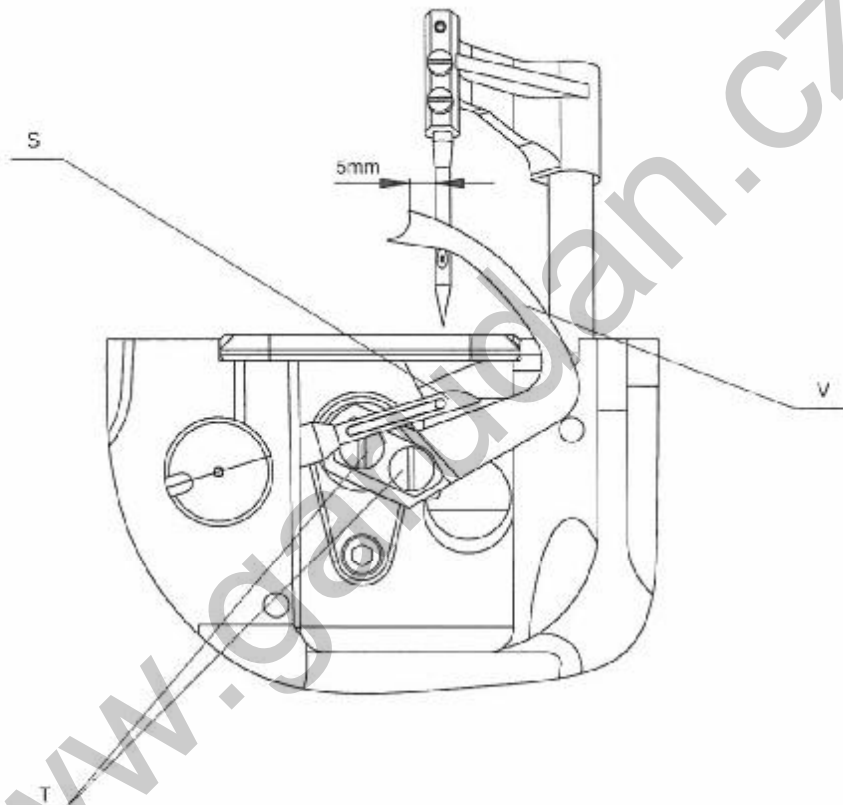

Fig. 4.4
1. Turn the hand-wheel by hand and push the lower looper to its furthestmost backward position. This action will give the operator access to the screws T (FIG 4.4).
5. Make sure the outer end of the upper looper extends for 5mm beyond the edge of the needle, as illustrated in FIG 4.4.
If this is not the case, adjust correct position via the screws T as in FIG 4.4.
Loosen the T screws (FIG 4.4) and turn the hand-wheel by hand for the upper looper to reach the top of its stroke (highest position).